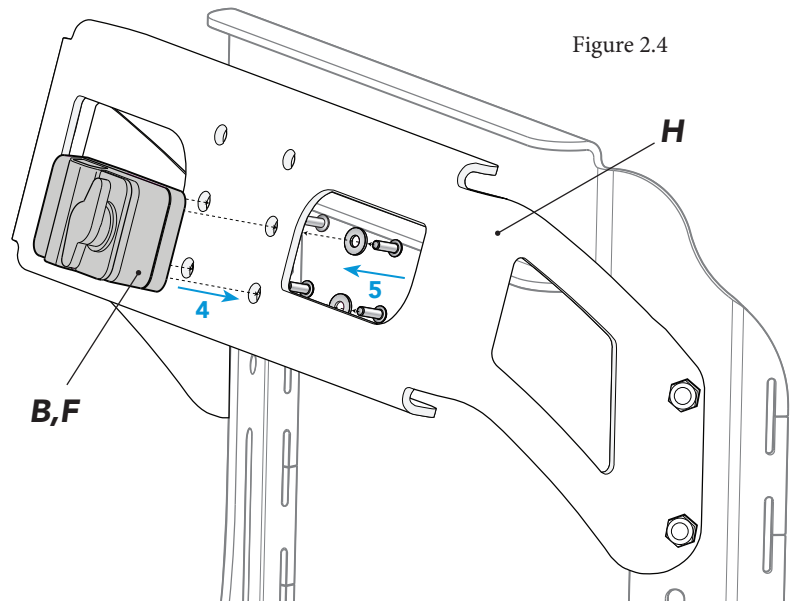

Figure 2.4
- 4 Align mounting bracket **B** and spacer plate **F** (if desired) with desired head support holes on head support bracket **H**. (Figure 2.4)